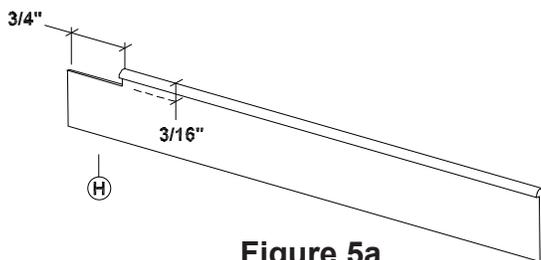

Figure 5a
Trim Vinyl Sweep one an a quarter inch longer than the Drip Rail, then Notch Vinyl Sweep (H) as shown in Figure 5a.